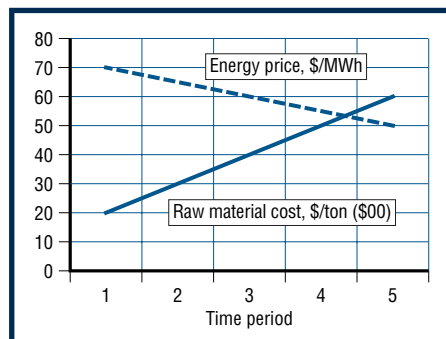

Figure 1. An example of energy price hedging.
- Mitigating adverse price conditions through the use of financial instruments and hedging strategies. Figure 1 provides an example of hedging. As the price of a key raw material increases, energy prices, through a negotiated contract with an ESP, decrease allowing the overall costs of production to remain relatively stable.